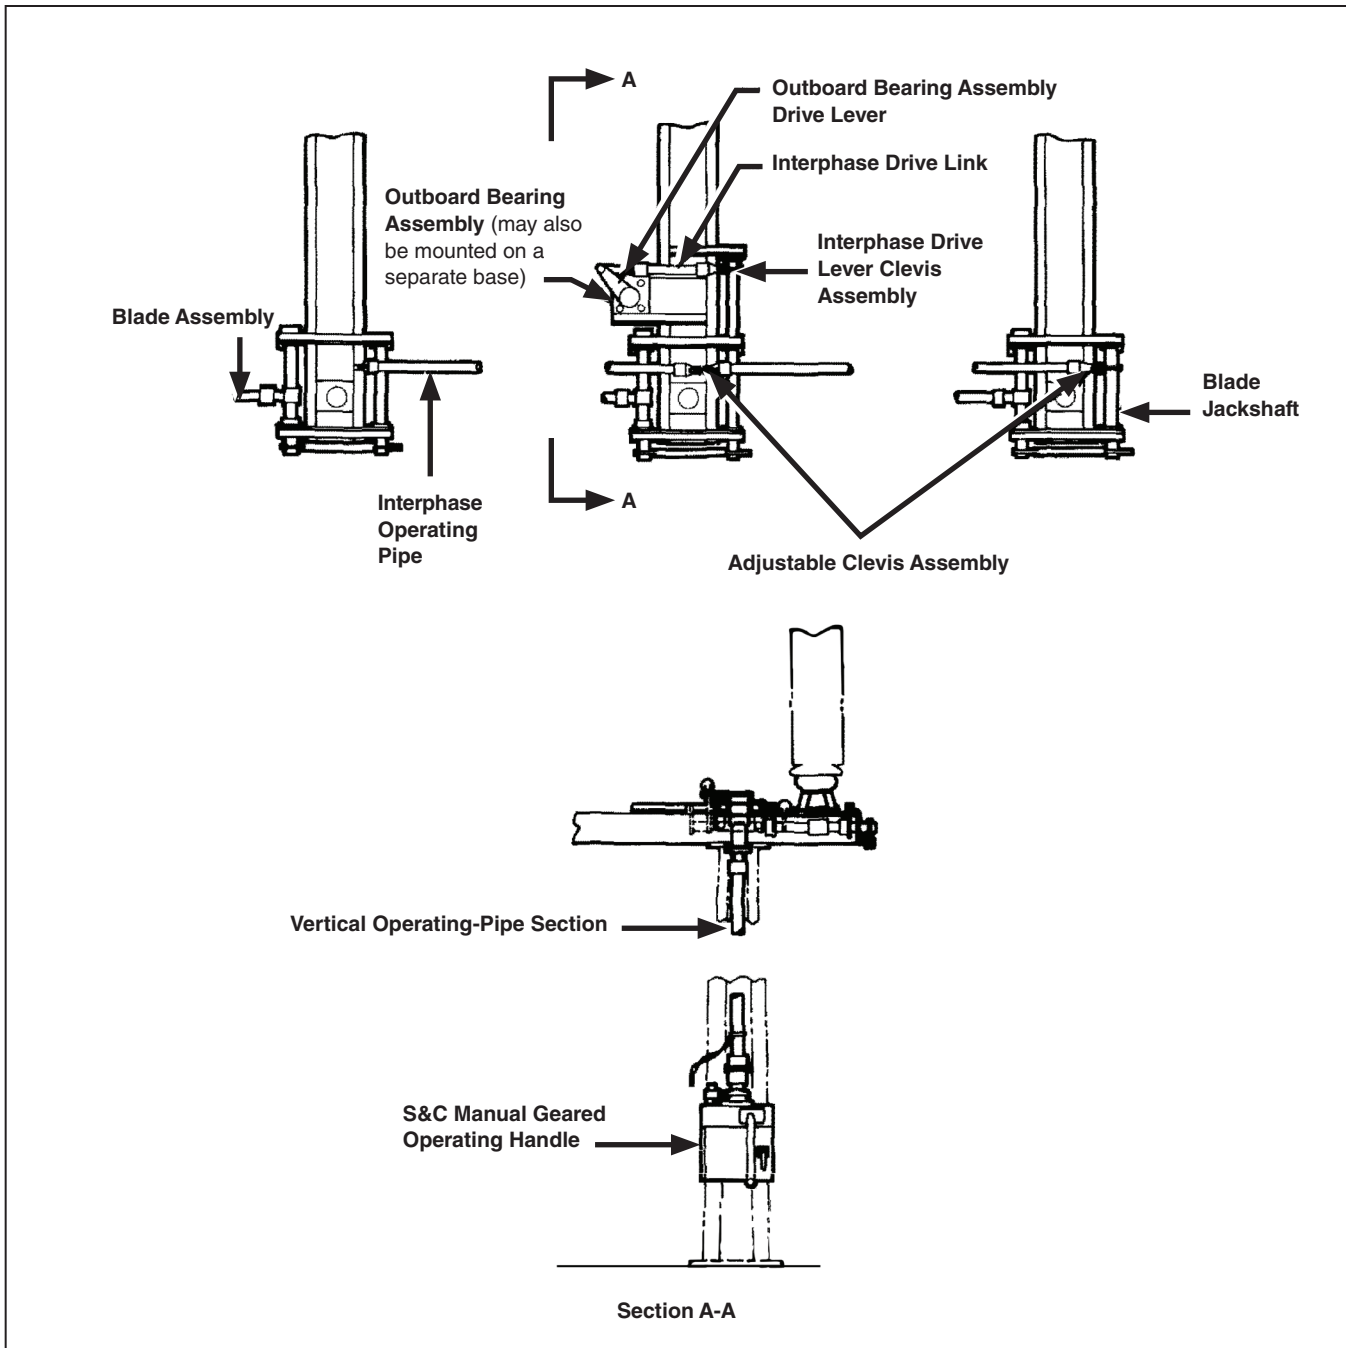

Figure 2. Typical grounding switch arrangement, shown for identification purposes. For the actual application, refer to the erection drawing.
STEP 3. Install the vertical operating-pipe section (or sections) and, if required, the guide-bearing assembly (or assemblies) between the universal coupling at the outboard bearing assembly and the flexible coupling at the handle. Work from the outboard bearing assembly downward. See Figure 2 on page 8 and Figure 3 on page 9.